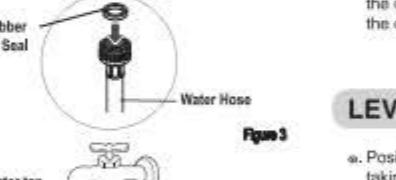

Figure 3
- Inspect the threaded fitting on each hose and make sure there is a rubber seal in place in both ends of each hose. (Figure 3)